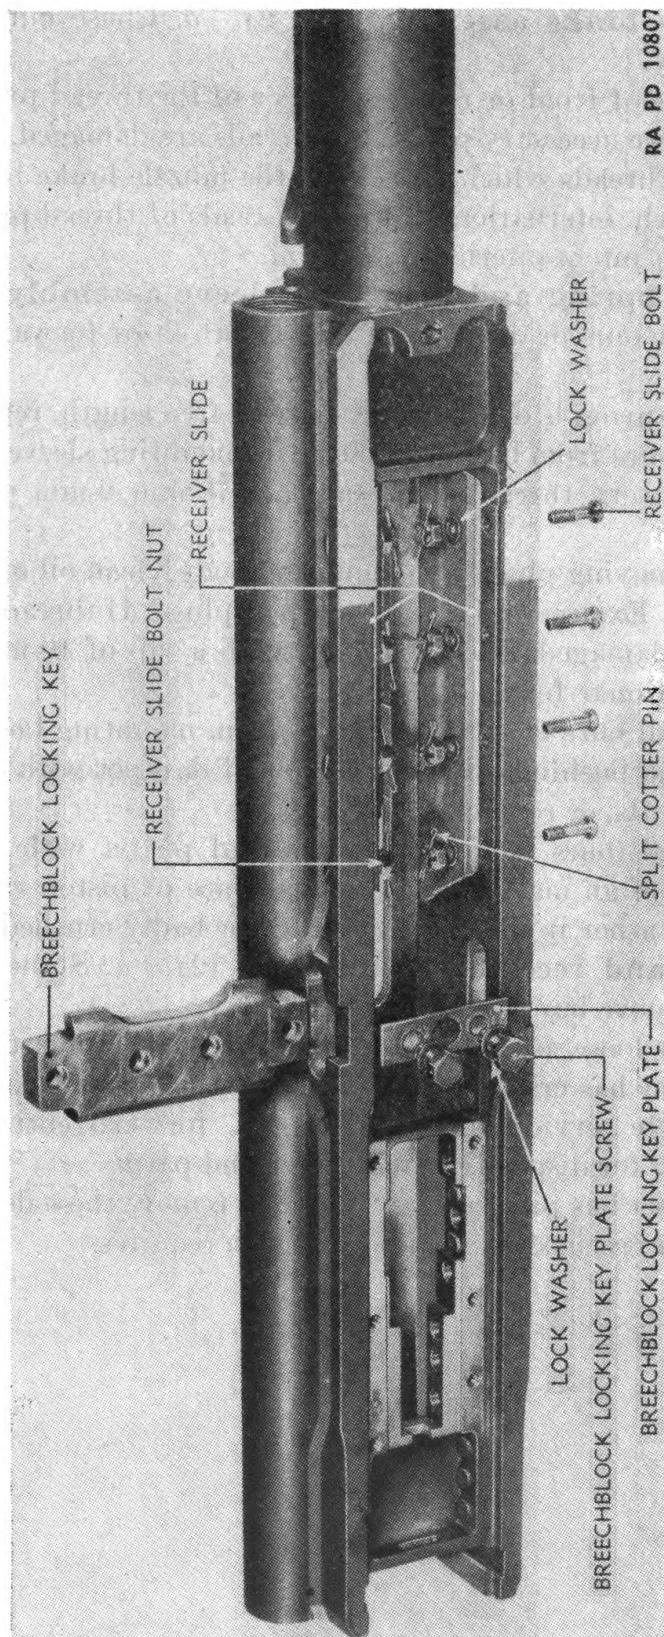

FIGURE 12.—Receiver group.
**20. Tube and receiver groups** (fig. 12).—*a.* Stone all scuffed surfaces to remove burrs.